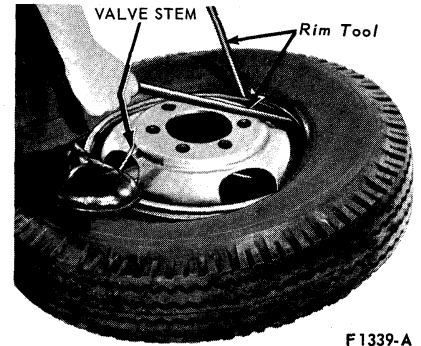

FIG. 9 Removing Tire Upper Bead
5. Force the tire upper bead into the valve slot. Then, pry the opposite portion of the bead over the edge of the rim with tire tools (Fig. 9).